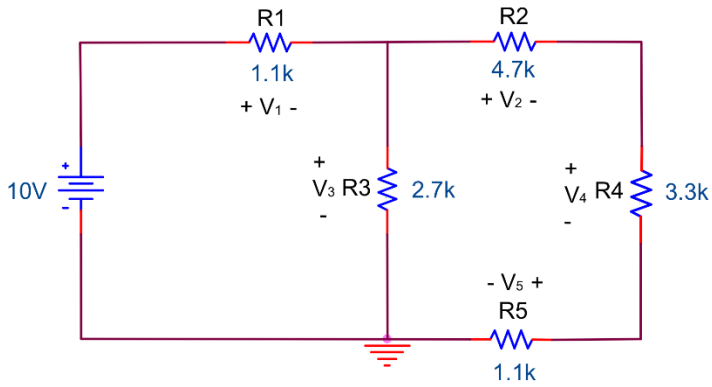
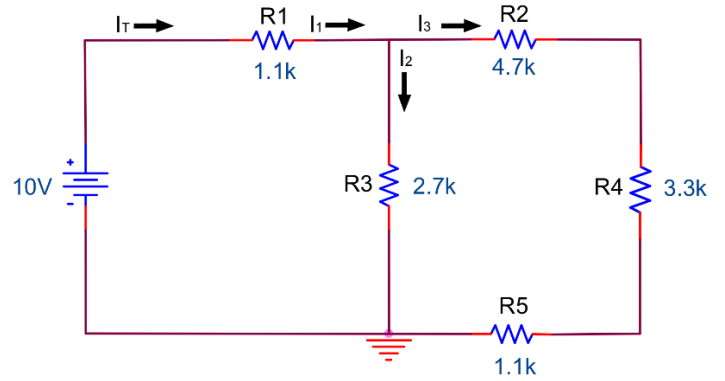

Figure 3.5
Figure 3.6
4. Calculate all voltages and currents in Figure 3.5 and Figure 3.6.